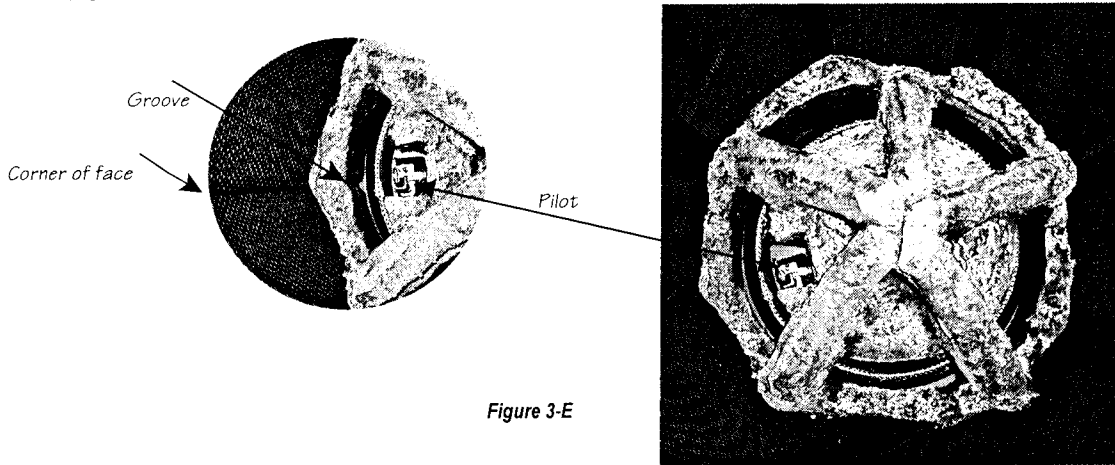

Figure 3-E
- b. Place the klinkers evenly around the outside of the log set between the screened face and log as shown in figure 3-F.